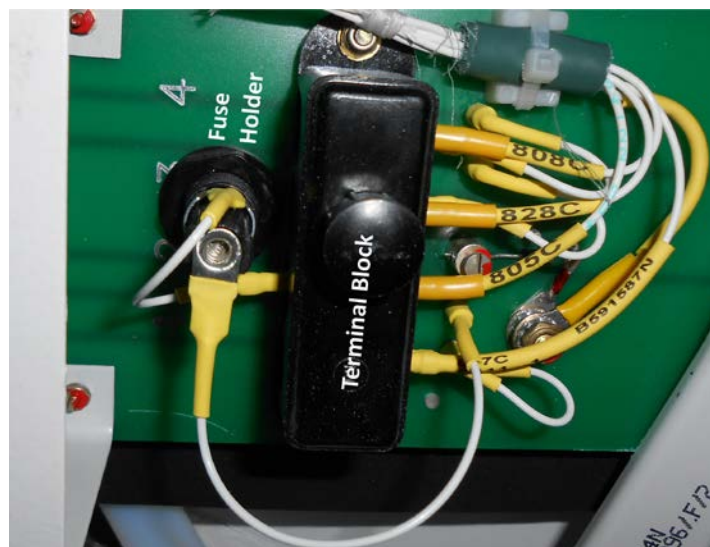

Fig. 1 Example of wiring on the B574 935N printed board
- Install a fuse holder, fuse and cap pos. 27, 28, 29 according to the Dwg. No. B405 629N. Use material pos. 1 to 3 of point 3.A. of this bulletin.
- Unsolder a wire (leading from lug terminal No. 2 of the terminal block pos. 12) from the pin 4 (B574 935N printed board) or pin 27 (B091 449N printed board) and solder it to the fuse holder terminal according to the B571 670X sheet 2 wiring diagram. Solder new wire to the second terminal of fuse holder and the pin 4 or 27 – see Fig. 1. Use material pos. 4, 5 of point 3.A. of this bulletin.